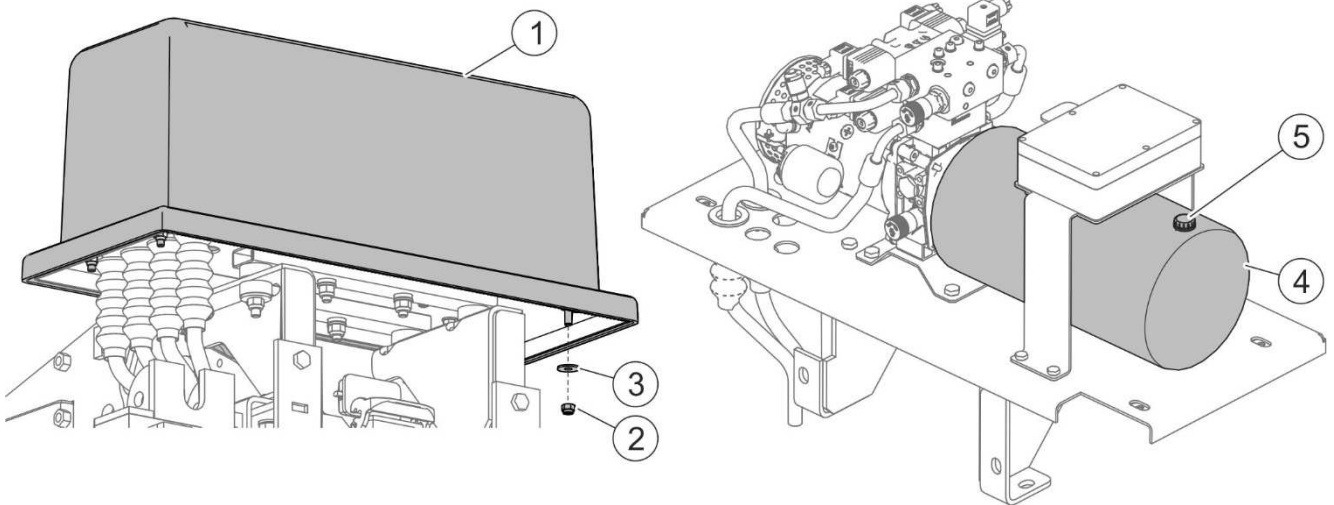

FIGURE 5.7 Checking oil level (*snowploughs with Power-Pack hydraulic supply system*)
(1) - housing of the electro-hydraulic power supply; (2) - nut; (3) - washer; (4) - oil tank; (5) - oil filler plug.
The oil tank (4) of the electro-hydraulic power supply (FIGURE 5.7) is located under the housing (1). To check oil level in the tank:
- set the plough in such a manner as to ensure that the oil tank (4) is positioned horizontally,
- undo four nuts (2) and remove housing (1),
- after unscrewing the oil filler plug (5), the correct oil level in the tank (4) should be 100-120 mm from the tank bottom when the mouldboard is lowered (the mouldboard rising cylinder is withdrawn).